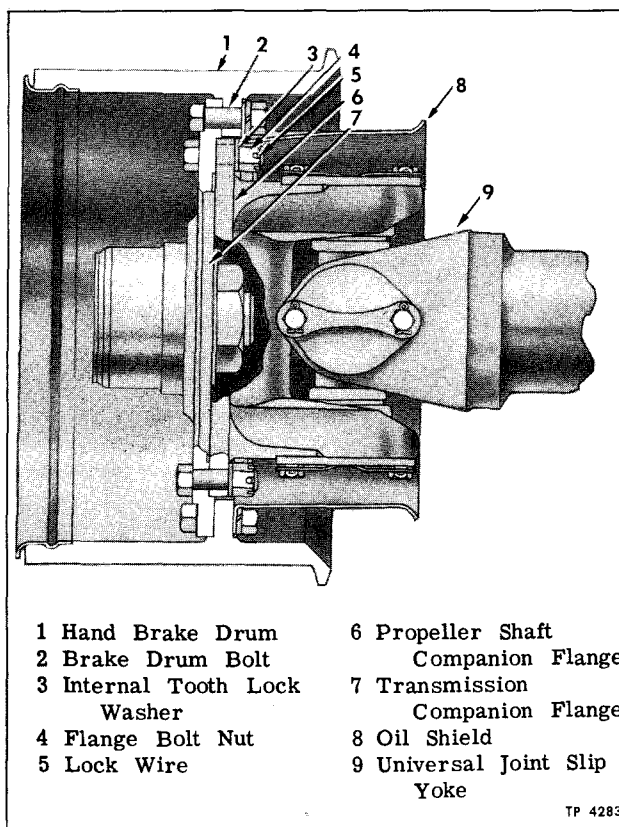

Figure 1—Propeller Shaft Installation at Transmission
Flange yoke, at slip joint end, is bolted to transmission companion flange (fig. 1). The shaft is splined to slip yoke and retained by a steel dust cap, which screws onto slip yoke (fig. 4).
4. Remove nuts and lock washers holding hand brake drum and oil shield to transmission companion flange (fig. 1).
6. Remove lock wire, nuts, and bolt washers holding propeller shaft companion flange to transmission companion flange (fig. 1).